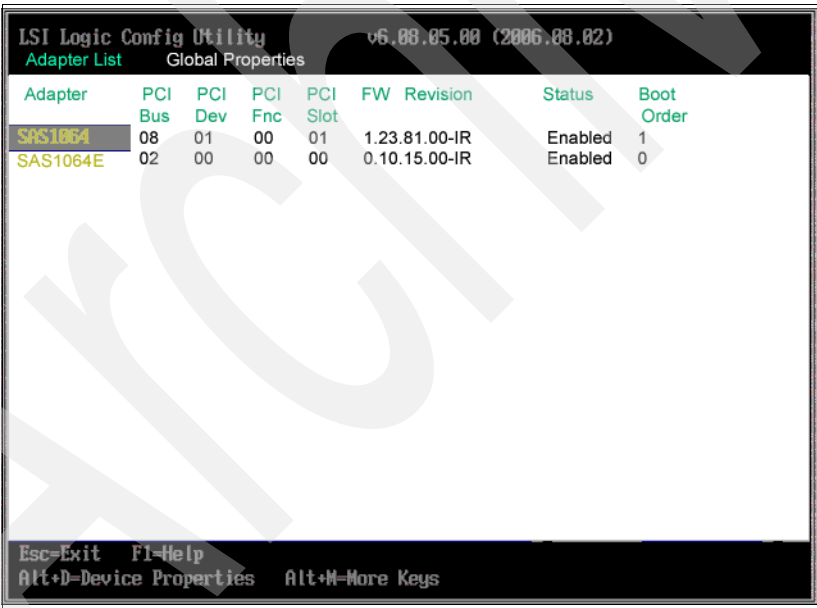

Figure 19-3 SAS Expansion Card - LSI Logic Config Utility menu
3. The menu shown in Figure 19-3 is displayed after pressing Ctrl + C.